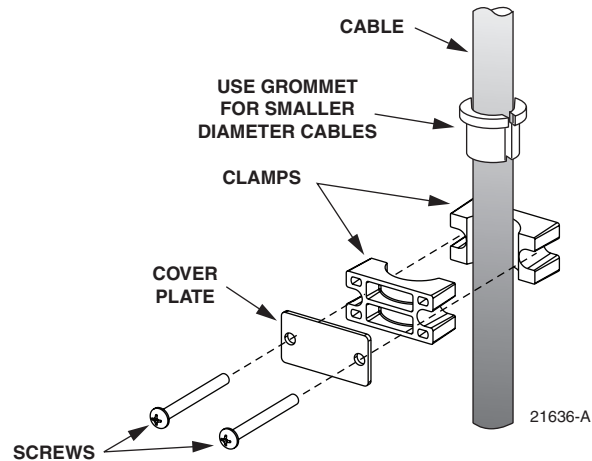

Figure 28. Cable Clamp Assembly
7. Assemble each pair of clamps (and grommet if required) on the cable as shown in Figure 28 and secure the cable to the cabinet at the selected cable clamping position.